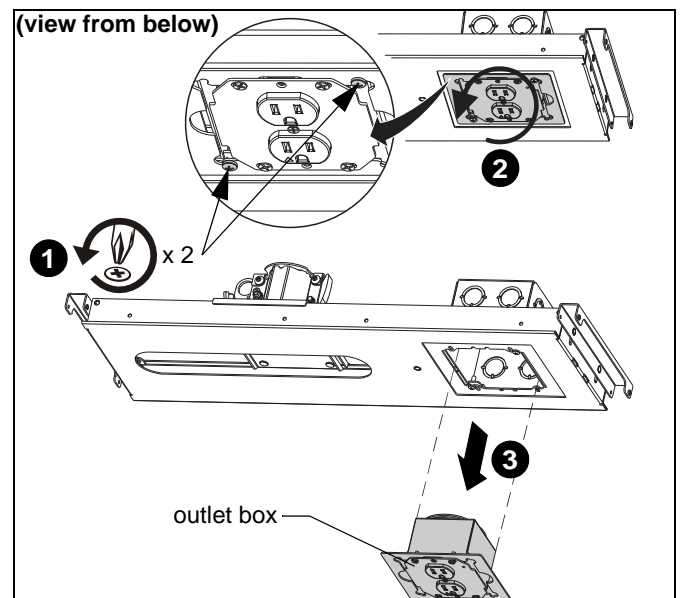

Figure 2
1. Loosen, but do not remove, two Phillips head screws holding outlet box to outer housing. (See Figure 2)
2. Rotate outlet box counter-clockwise until it is free to be removed from housing. (See Figure 2)
3. Remove outlet box from housing. (See Figure 2)